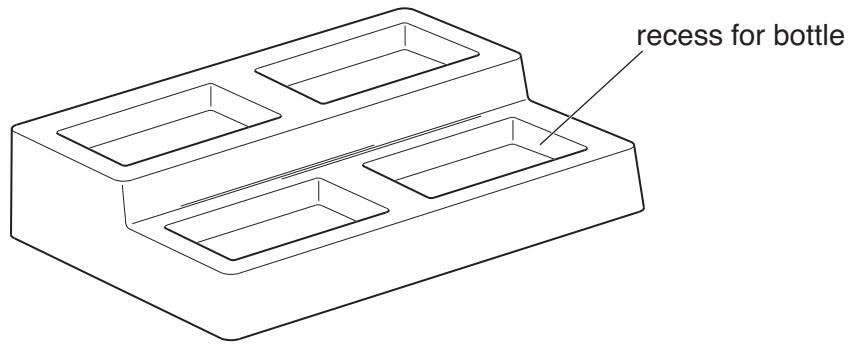

Fig. 3
- 3 Fig. 3 shows a display stand for perfume bottles.
(e) The display stand shown in Fig. 3 was designed using CAD and a prototype was made by 'rapid prototyping'.